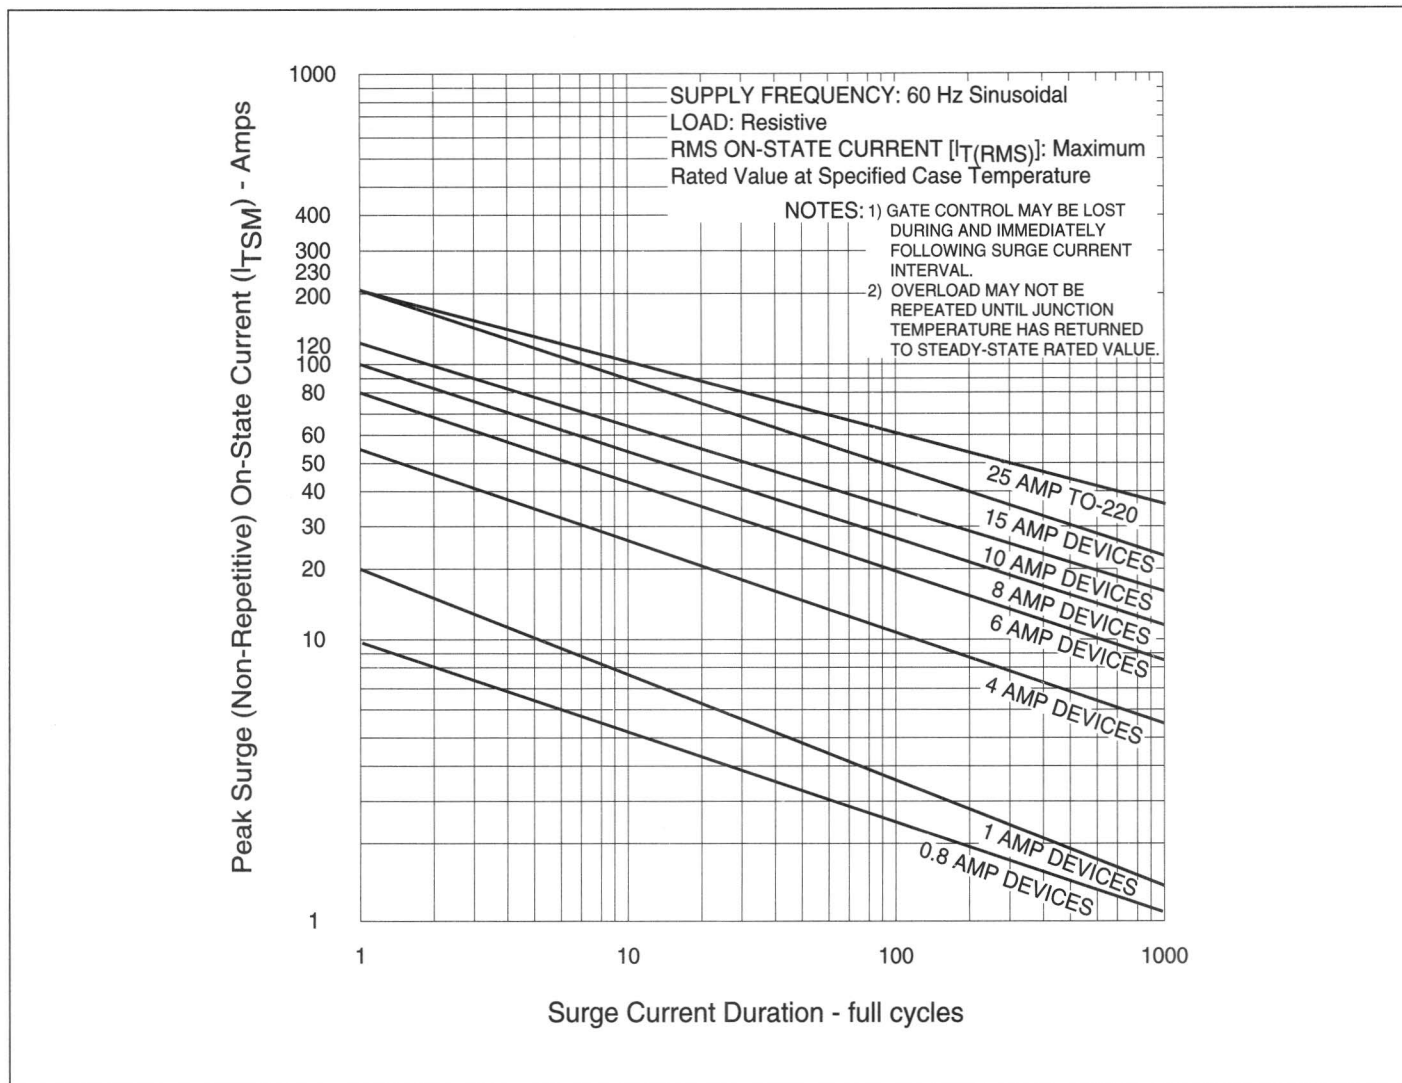

Figure 2.13 Peak Surge Current vs Surge Current Duration
- See Figure 2.13 for surge rating with specific durations.